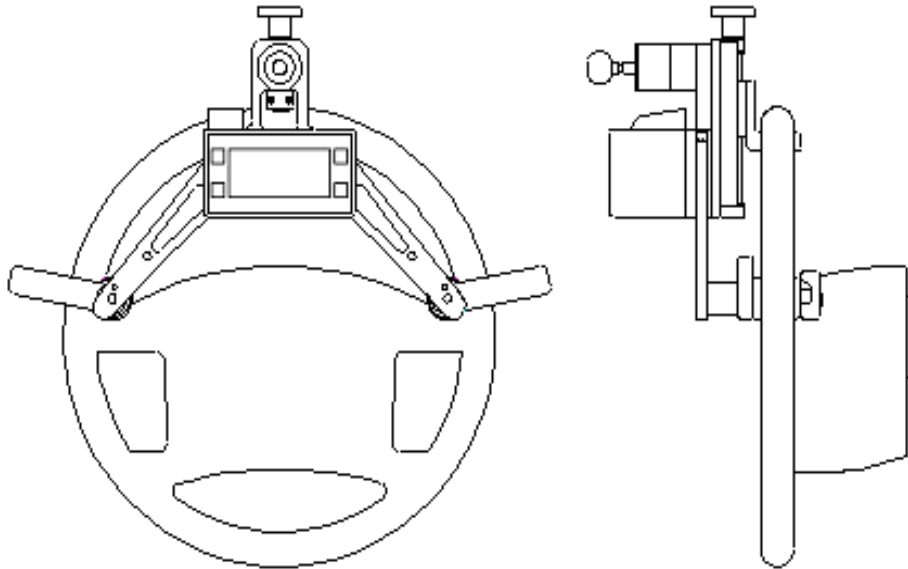

Fig. 1
- 1) Fig. 1, below, shows the 300 Torque/Inclinometer properly mounted to a steering wheel. Make sure the rollers on both sides of the tool are firmly seated into the steering wheel. Clamp the unit into place by tightening the thumbscrew on top of the tool. (Do not over tighten)